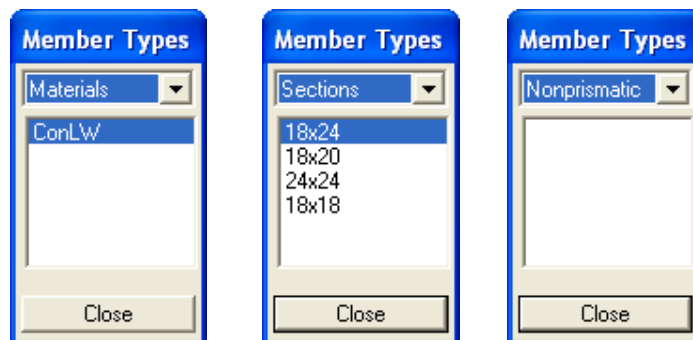

Figure 5-18 Member Types dialog box
- From the **Assign** menu, choose **Member Types**. The modeless dialog box of Figure 5-18 appears. To end member type assignment, choose the CLOSE button.